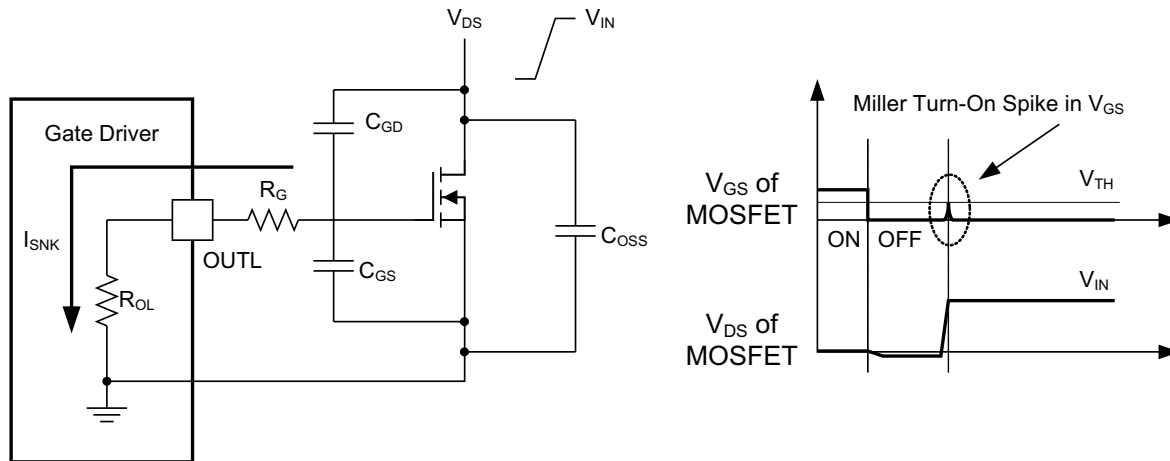

Figure 24. Very Low Pull-Down Impedance in UCC27511, 4-A/8-A Asymmetrical Drive (output stage mitigates Miller turn on effect)
An example of a situation where Miller turn on is a concern is synchronous rectification (SR). In SR application, the dV/dt occurs on MOSFET drain when the MOSFET is already held in off state by the gate driver. The current discharging the C_{GD} Miller capacitance during this dV/dt is shunted by the pull-down stage of the driver. If the pull-down impedance is not low enough then a voltage spike can result in the V_{GS} of the MOSFET, which can result in spurious turn-on. This phenomenon is illustrated in Figure 24. UCC27511 offers a best-in-class, 0.375- Ω (typ) pull-down impedance boosting immunity against Miller turn on.